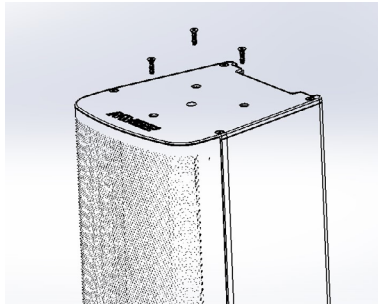

Figure 1 - Remove screws
1. Attach Locking Plate (A) to the top of the first AC6
- Remove 3x M5x12mm screws from top of AC6 (Figure 1).